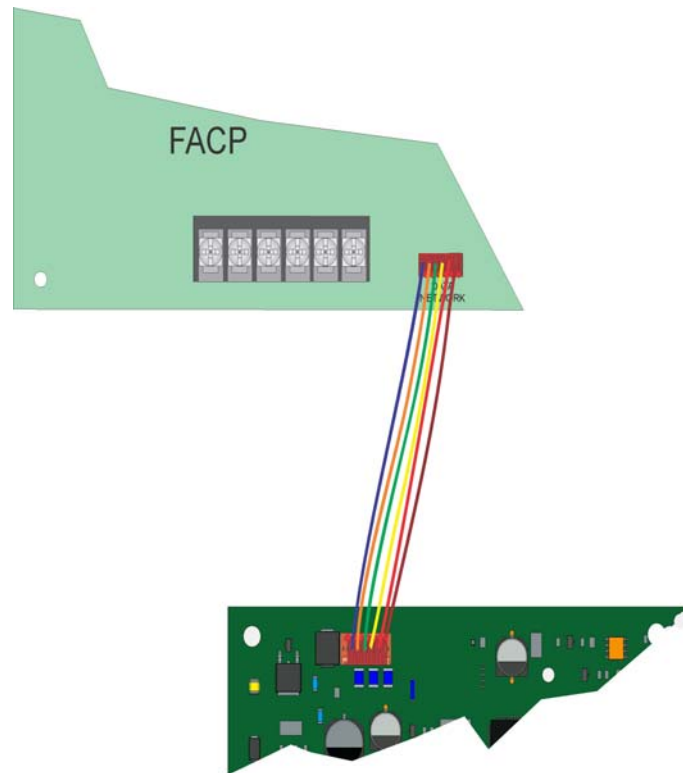

Figure 5-6 Panel to SK-NIC connection
- Use the 6-pin cable included with SK-NIC to connect the 6808 to the SK-NIC. Connect the SK-NIC to the pin connector on the control panel labeled Data Network. See Figure 5-6.